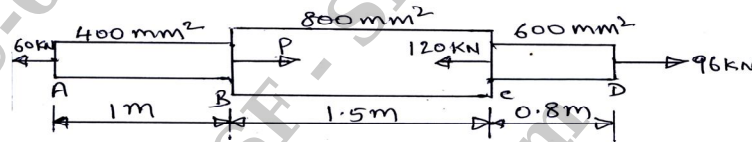

Fig. Q1 (c)
- c. A steel bar ABCD of varying sections is subjected to the axial forces as shown in Fig. Q1 (c). Find the value of P necessary for equilibrium. If  $E = 210 \text{ KN/mm}^2$ , determine